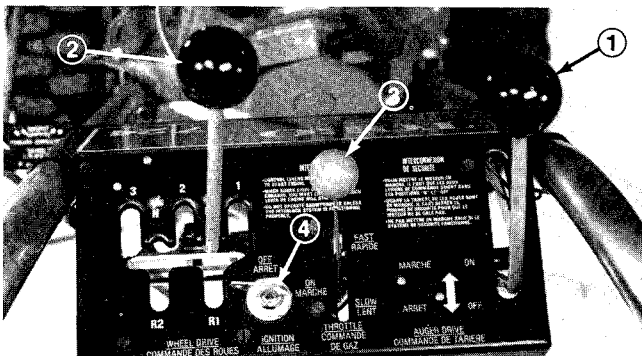

Figure 20
1. Move auger drive control to DISENGAGE (Fig. 20).
2. Move wheel drive control to N—neutral — and throttle to FAST (Fig. 20).
5. Rotate ignition key to ON (Fig. 20).